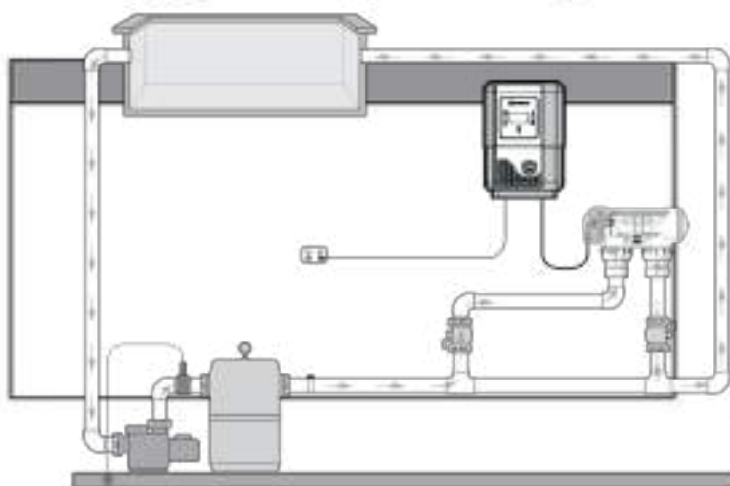

Figure 3. Plumbing Cell Only
The cell must be plumbed in a position that is accessible for maintenance and within 1.5 meters of the controller. The cell should be the last piece of equipment in the circulation system. The cell must be installed horizontally, level and with correct flow orientation, see Figure 3.
1. If you intend to plumb the cell on a bypass, the bypass must be equipped with Isolation valves, see Figure 3.
- The cell must be the last piece of equipment on the return line, see Figure 3.
- It is recommended in all installations that the cell is installed on a bypass equipped with isolation valves, see Figure 3.
- In order to avoid load loss, installing the cell on a bypass is **MANDATORY** if system flow rated exceeds 300 Lpm, see Figure 3.